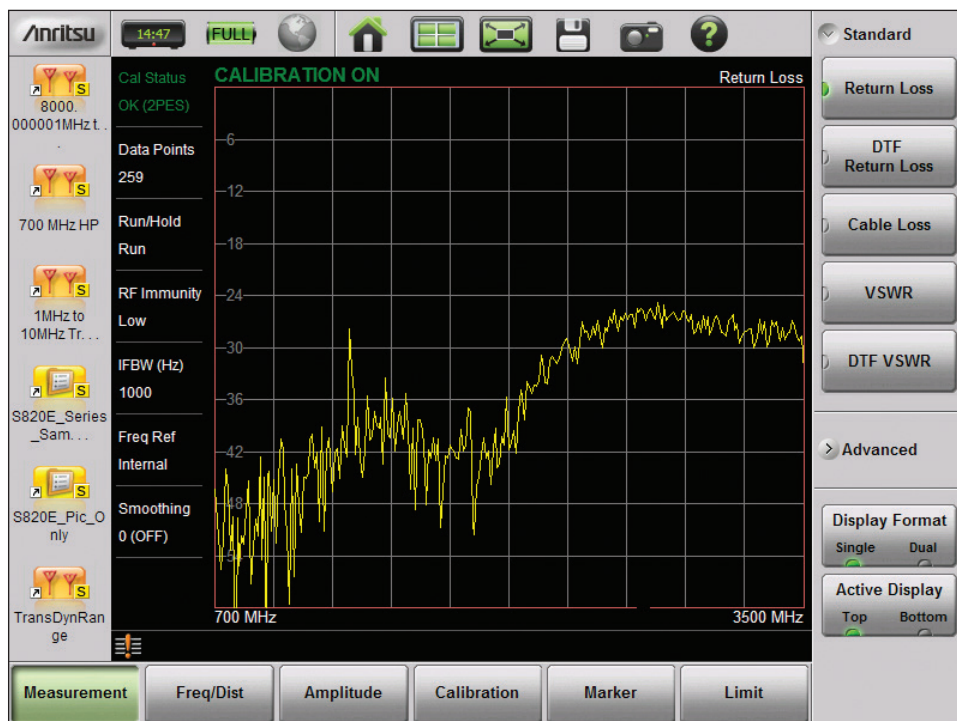

Figure 11. DUT Return Loss measurement
7. If limits or markers are required, activate them as needed. Consult the S820E user guide (built into instrument help menu) for details on limits and marker use. See **Figure 11** for example of Return Loss measurement on the DUT. Your measurement will be different.